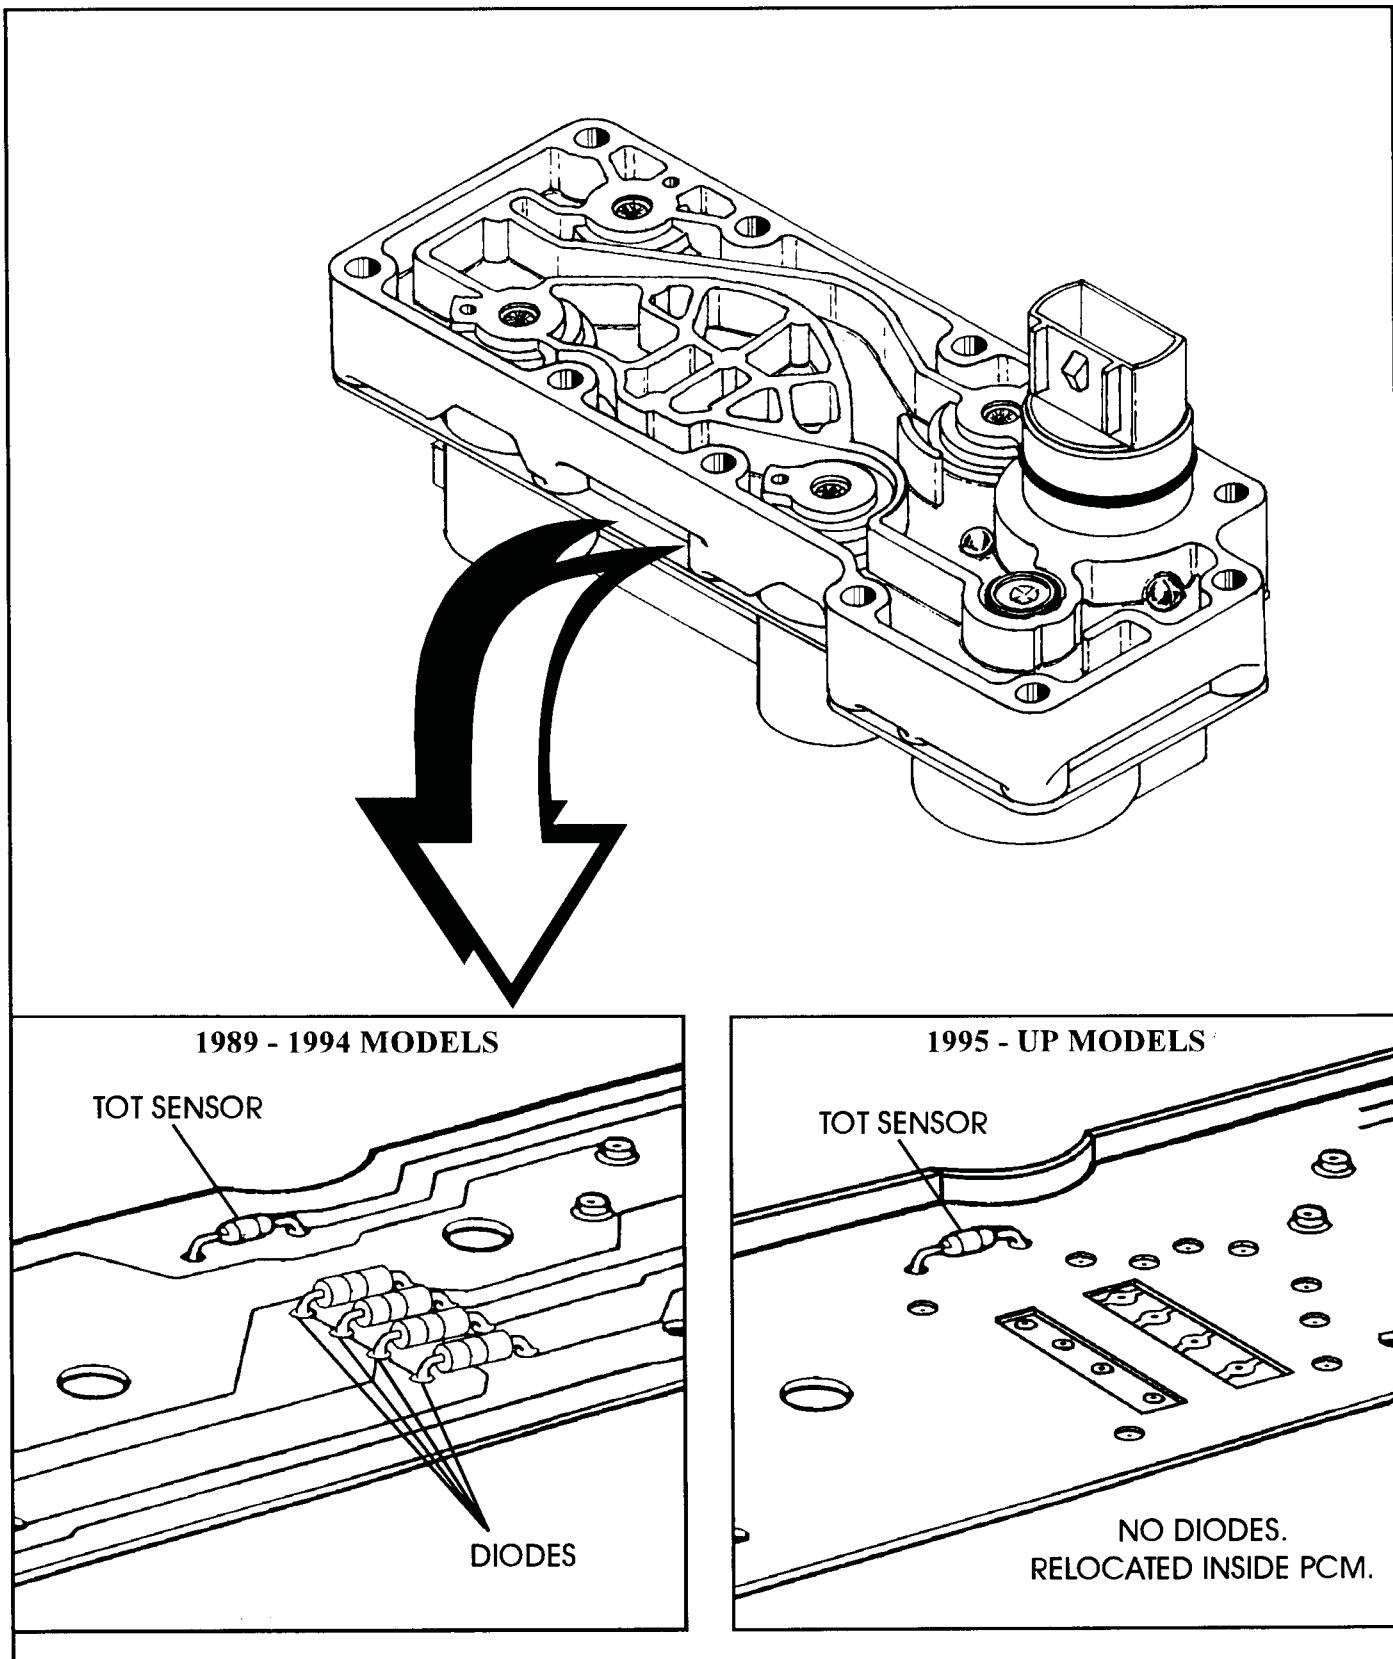

Figure 54
**CHANGE:** Beginning at the start of production for 1995, all models of the E4OD transmission were produced using a new design solenoid pack, that will not interchange with previous models, as the internal diodes have been eliminated and put into the PCM (See Figure 54)
***They will not interchange because in 1995 models the diodes for the solenoids were moved out of the solenoid pack and placed into the PCM (See Figure 54).***